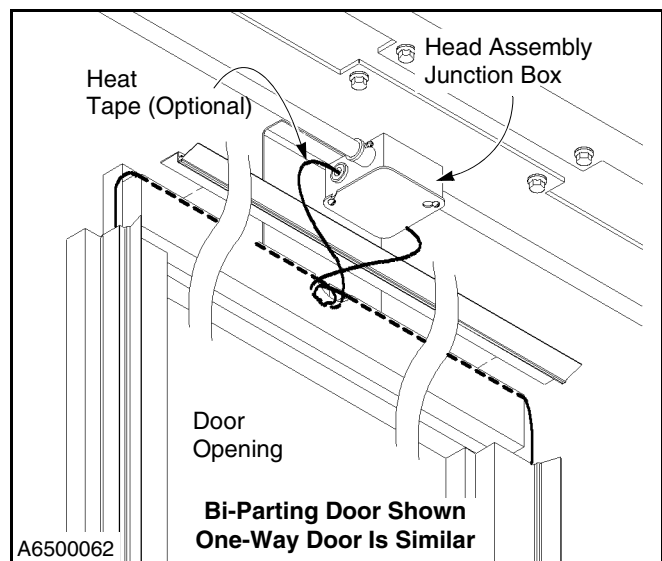

Figure 14
3. Remove the cover from the head assembly junction box located above the door opening. (See Figure 14.)